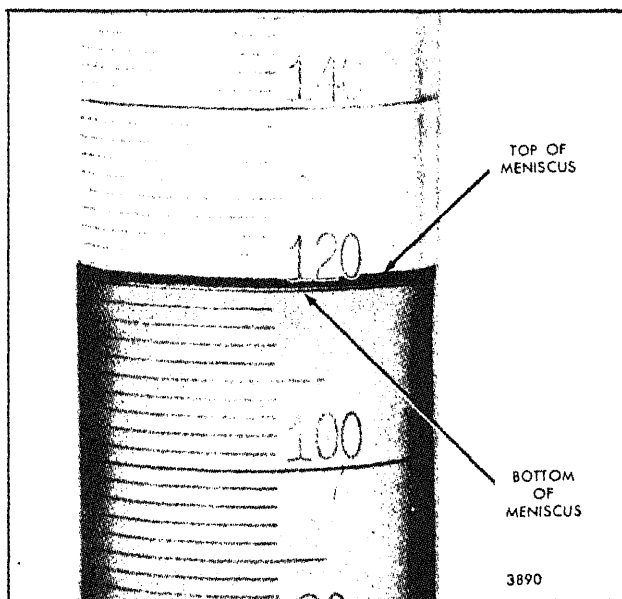

Fig. 3 - Checking Fuel Output
1. **Operator Errors:** If the column of liquid in the vial is read at the top of the meniscus instead of at the bottom, a variation of 1 or 2 points will result. Refer to Fig. 3.